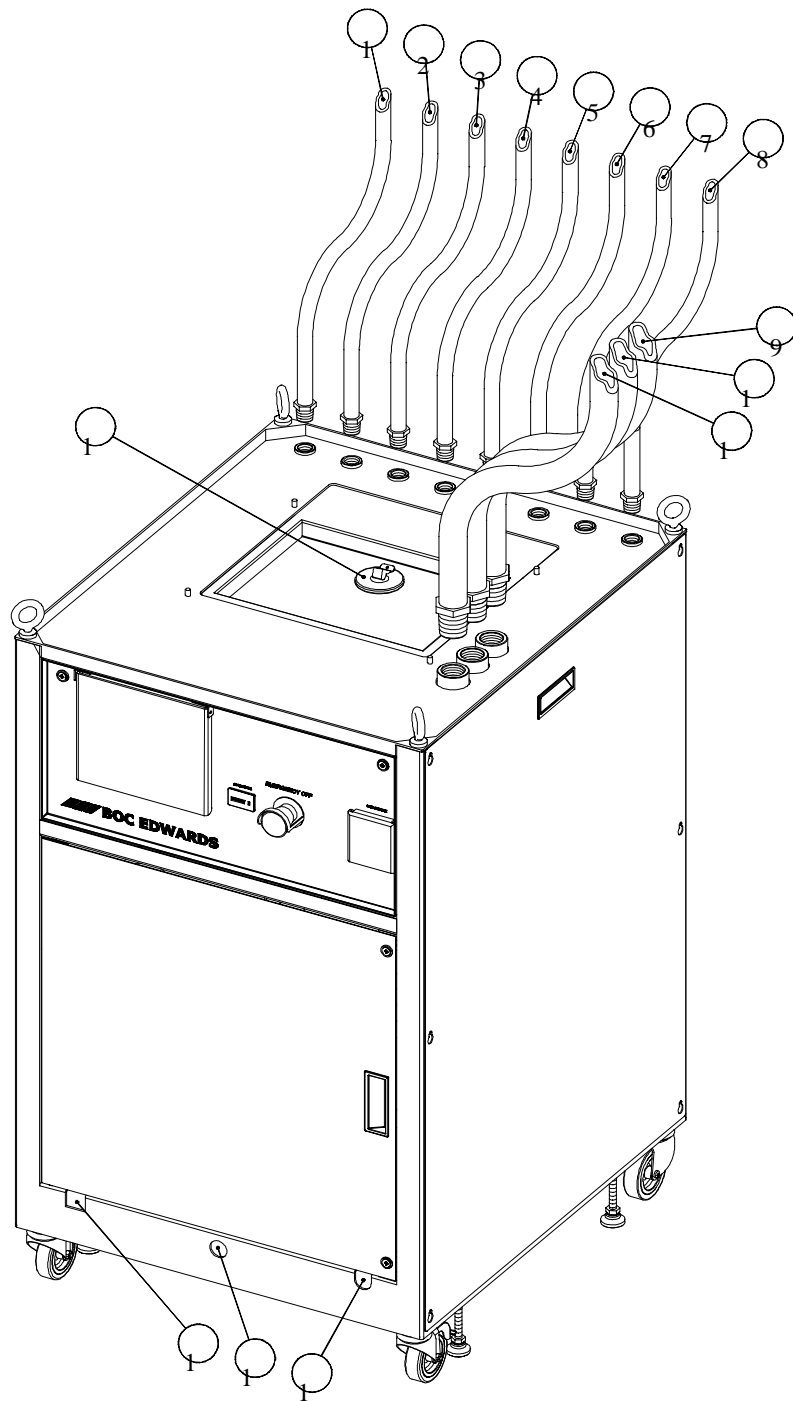

Figure 3.1 - Plumbing Connections and Electrical Feedthroughs (see Table 3.1)
CAUTION: 	Once in its final installation position, the two front casters on the HTU must be locked to secure from rolling, and the four leveling feet must be lowered to make firm contact with floor and level the HX 1530; refer to Figure 3.1.
The HTU is equipped with one Primary coolant supply fitting, eight Primary coolant return fittings, one Facility water supply fitting, one Facility water return fitting, one Drain fitting, and one Reservoir Fill Port & Plug. The position of each fitting on the HTU is illustrated in Figure 3.1, Plumbing Connections, below. Specifications for each fitting are defined in section 2.7, “Physical Data”.
Facility Supply and Return Water Lines – Verify that Facility supply water source temperature, pressure and available flow rate comply with corresponding specifications listed in Section 2.2, Facility Requirements. Install the appropriate Facility supply water hose assembly from Facility supply source fitting, to Facility supply fitting on HTU (Item 10, Figure 3.1). Install the appropriate Facility return water hose assembly from Facility return source fitting, to Facility return fitting on HTU (Item 9, Figure 3.1).
Primary Coolant Supply Line – Install the appropriate Primary coolant supply hose assembly from Primary coolant supply fitting on HTU (Item 11, Figure 3.1), to coolant supply manifold fitting at the process tool.
Primary Coolant Return Line - Install the appropriate Primary coolant return hose assembly from each process tool coolant return fitting, to the corresponding Primary coolant return fitting on HTU (Item 1,2,3,4,5,6,7,or 8, Figure 3.1).
Overflow/Reservoir Drain Line – Install appropriate Drain hose assembly from Drain port fitting on HTU (item 13, Figure 3.1; described in section 2.3) to Facility drain source fitting.
Add De-ionized water to Reservoir – Unscrew the plastic Fill Plug (item 15, Figure 3.1) and slowly raise from sink Fill Port; then remove level indicator (item 16, Figure 3.1). Add 25 gallons of de-ionized water to reservoir. Reinstall level indicator and Fill Plug.
(all items are shown in Figure 3.1 unless stated otherwise)